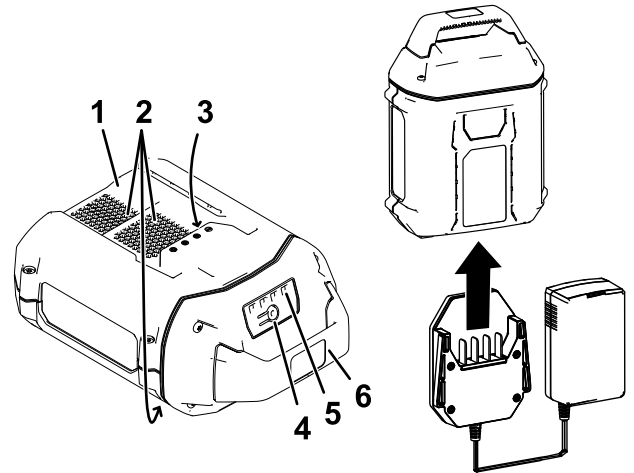

Figure 13
2. Line up the cavity in the battery pack (Figure 13) with the tongue on the charger.
3. Slide the charger into the battery pack until it is fully seated (Figure 13).